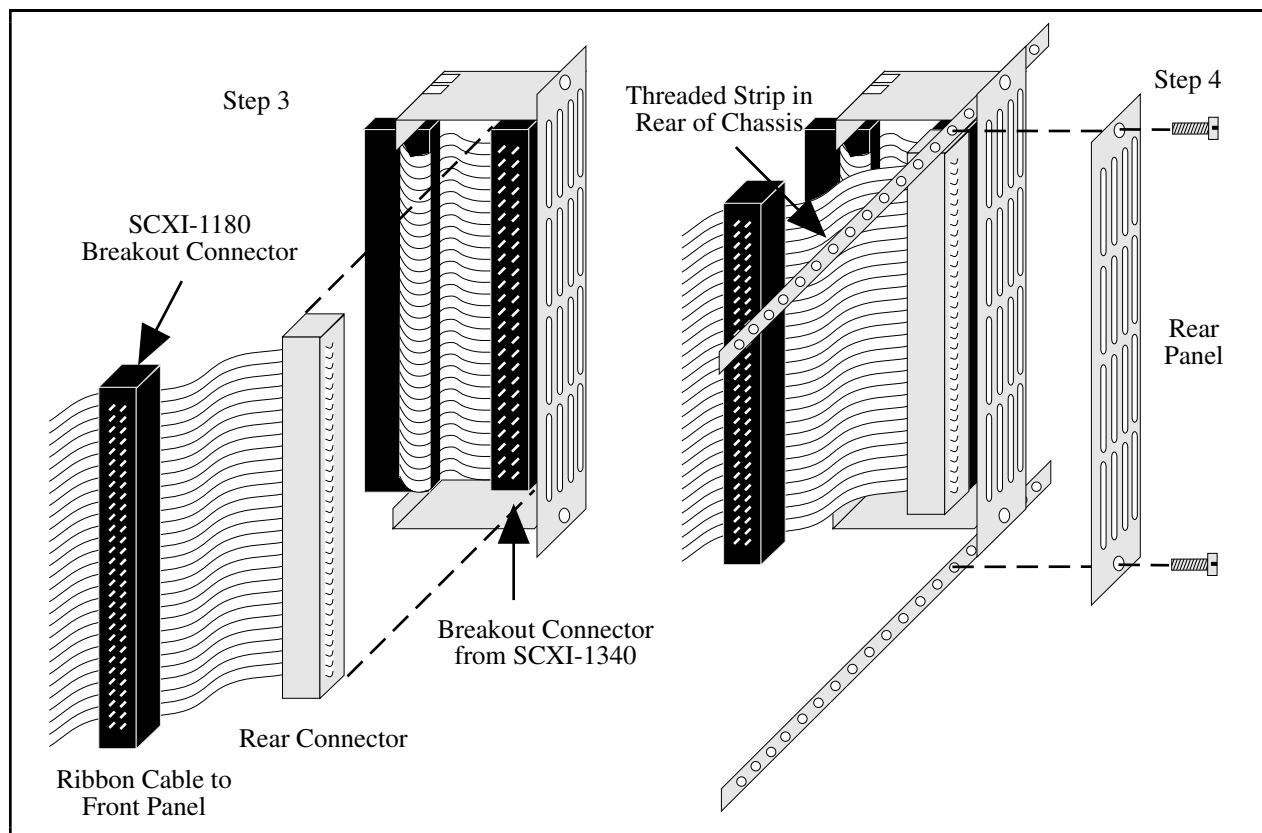

Figure E-3. SCXI-1180 Rear Connections
3. Thread the rear connector through the front of the chassis to the rear of the chassis. Attach the rear connector to the breakout connector of the adjacent cable assembly or slot extender, as shown in Figure E-3.
3. Connect the rear connector of the cable extender to the breakout connector in the adjacent slot. This attachment is similar to Step 3 in the SCXI-1180 Installation section, as shown in Figure E-3.